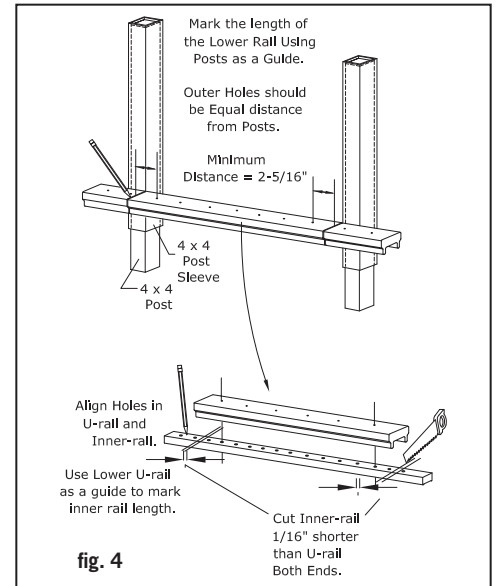

fig. 4
Step 6: **Note!** To ensure the outer balusters are equally spaced, the rail components require trimming at both ends. Using the lower pre-drilled U-rail as a guide, place it adjacent to the post sleeves and center the rail so the furthest pre-drilled holes for the balusters are equal distances from the post sleeves. **Ensure the holes are a minimum of 2-5/16" from each post.** Mark the gap between the posts onto the U-rail and trim to fit (fig. 4).